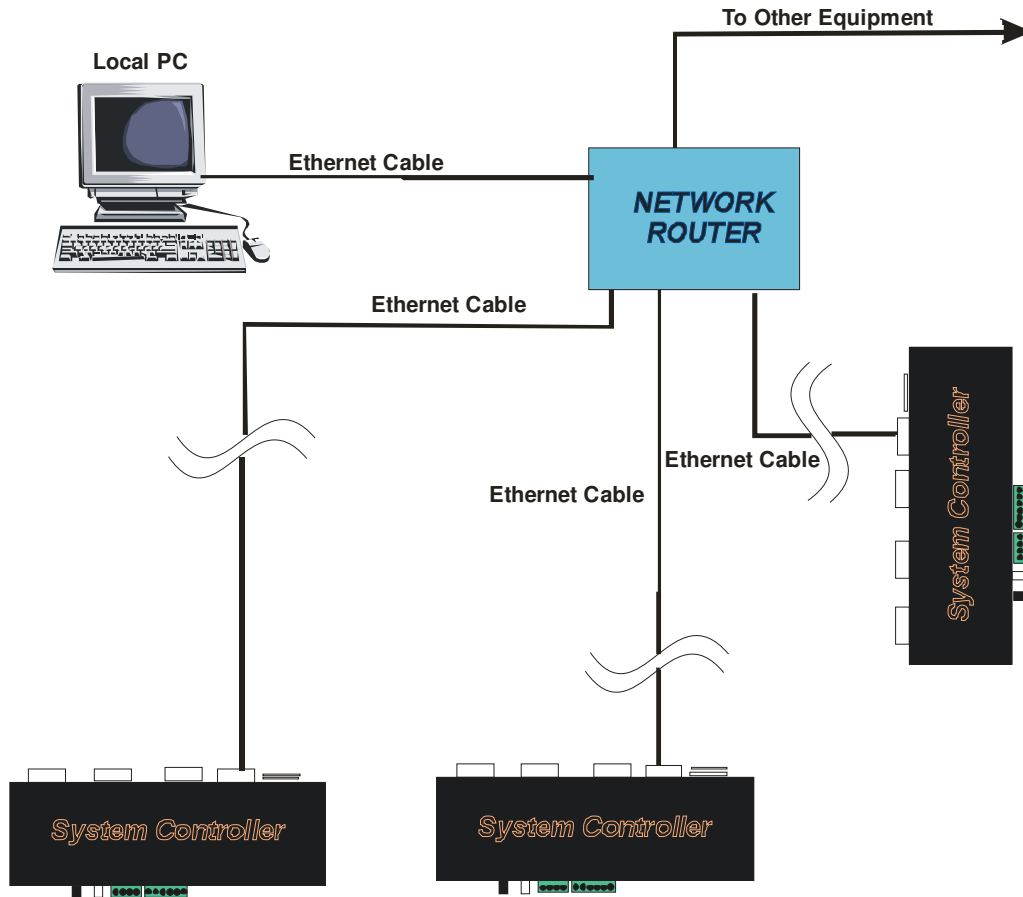

Figure 4: Connection of Controller, Router and PC
1. Connect the PC, router and Controller(s) as shown in Figure 4.